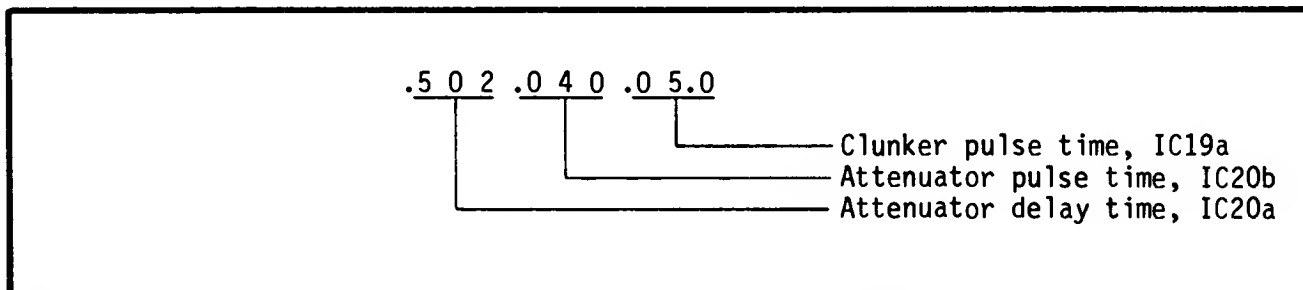

Fig 7.5 Monostable Timing Display
7.4.12.1 Special function 90 permits the operation and timing of the output attenuator and clunker drive monostables to be checked. The duration of the monostable pulses are measured and displayed, in milliseconds, in the frequency display, as shown in Fig 7.5. The timing sequence is repeated and the display updated twice per second.